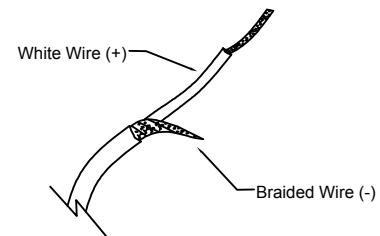

FIGURE-04
5. Strip the White Wire by 1/2" as well as to the Braided Wire. See FIGURE-04.